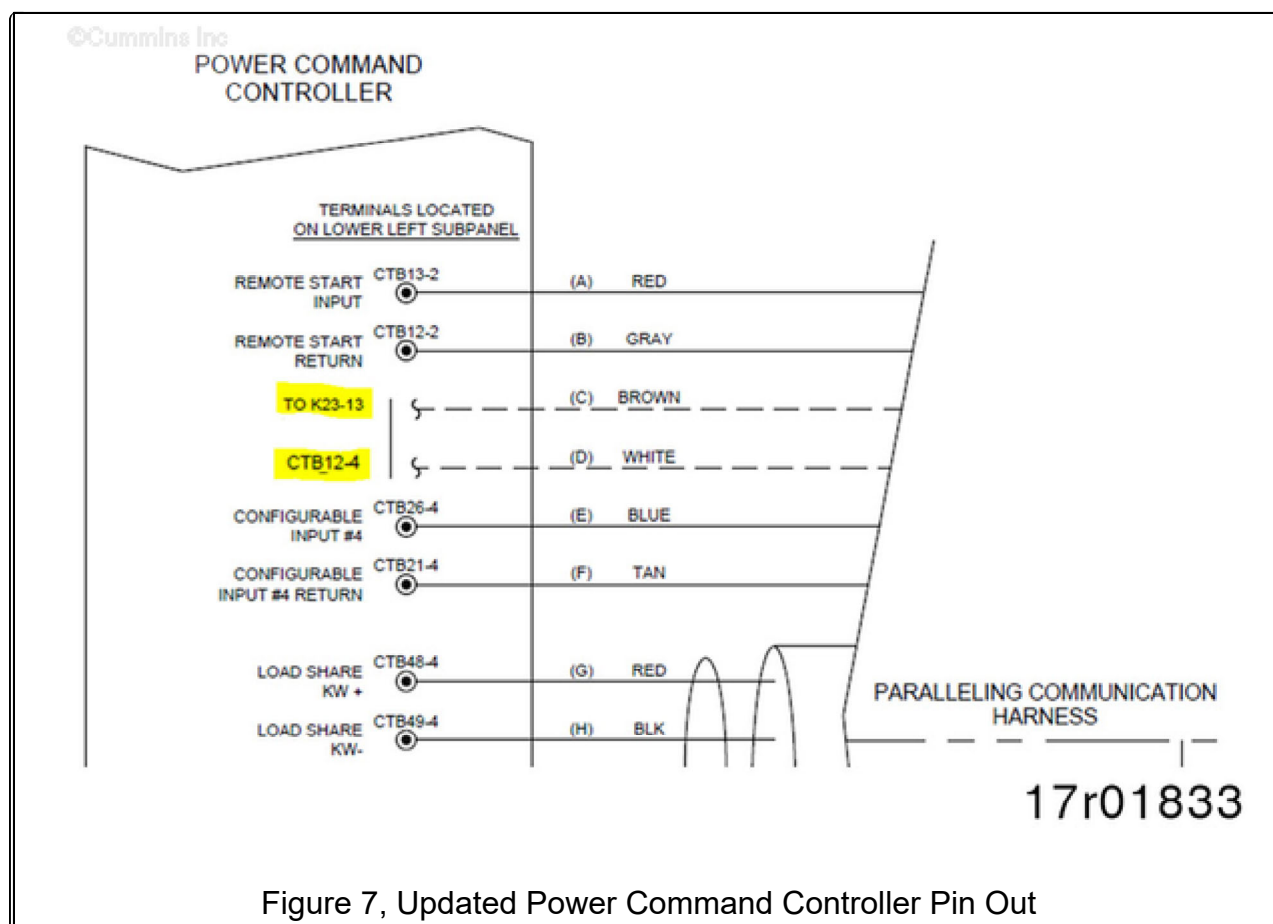

Figure 7, Updated Power Command Controller Pin Out
6. Remove Wire "C" (Brown) from CTB27-4 and move it to K23-13. Wire should now connect the paralleling connector to K23-13 (See Figure 6 and Figure 7).
7. Remove wire "D" (white) from CTB22-4 and move it to CTB12-4. Wire should now connect the paralleling connector to CTB12-4 (See Figure 6 and Figure 7).